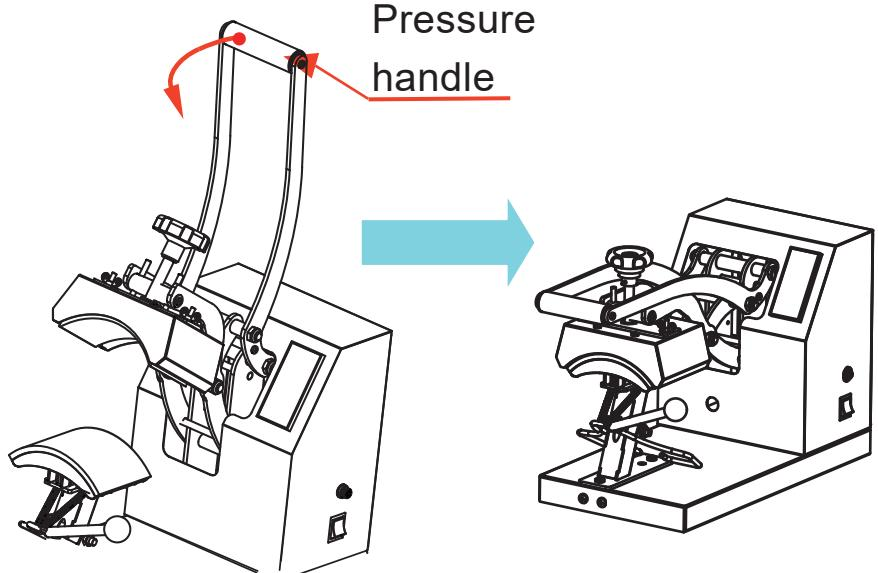

Figure 8
5. When the operating temperature is reached, push the "pressure handle" down until the beeper keeps beeping, as shown in Figure 8 and 9. Then, lift the "pressure handle" and remove the cap from the mould.